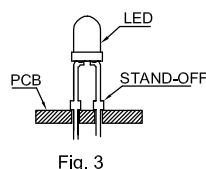

Fig. 3
4. Use stand-offs (Fig.3) or spacers (Fig.4) to securely position the LED above the PCB.